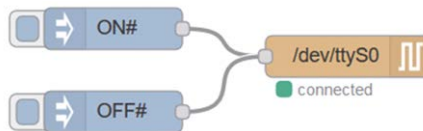

Figure 14.10 Flow program of the project
Node-RED flow program: Figure 14.10 shows the flow program which consists of just 3 nodes: two inject nodes to send the ON# or OFF# commands to the serial port, and a serial out port to send the commands to the ESP32 DevKitC. You should disable the console serial port (/dev/ttyS0) as described in Chapter 11 so that you can use the Raspberry Pi serial port.
- Join all the nodes as in Figure 14.10 and click **Deploy**.